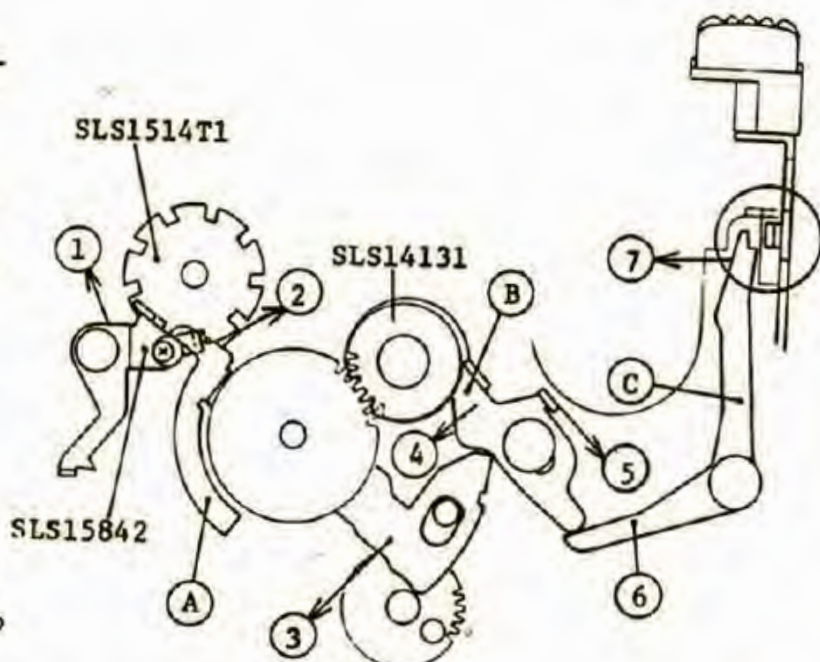

Fig. 14
- 3) When winding up film advance crank or knob, top of SLS15842 Stop lever goes into a hollow of SLS1541T1. And then moves (A) lever in direction shown by the arrow in Fig. 14.
- 4) When the (A) lever moving in direction → 2 → 3, (B) stopper gets in cam of SLS 14131 (A) rotation stop disc. Then film advance crank or knob does not wind any more.